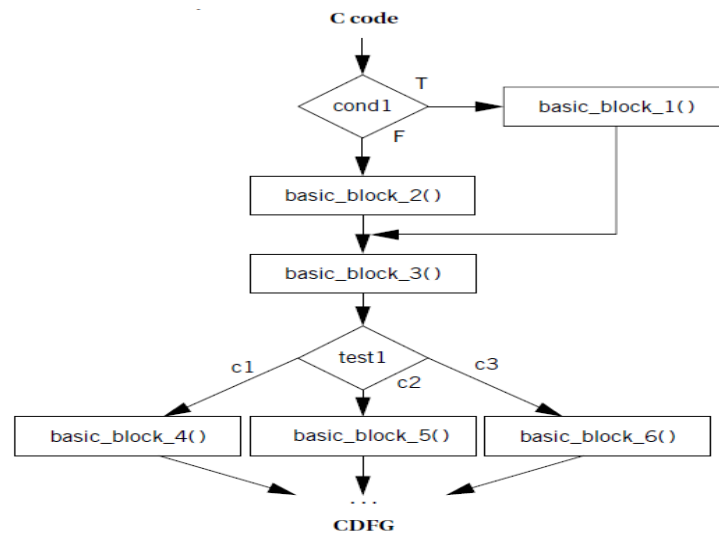

FIGURE 5.6
- Figure 5.6 shows a bit of C code with control constructs and the CDFG constructed from it. The rectangular nodes in the graph represent the basic blocks.